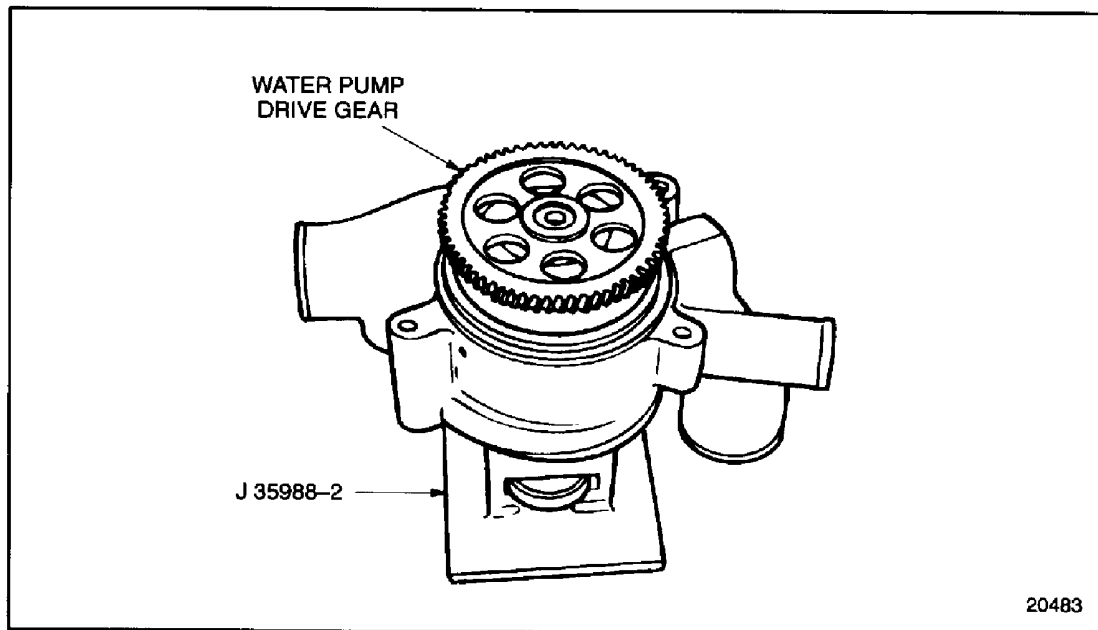

Figure 4-28 Water Pump Drive Gear Installation
21. Turn the housing over and place it face (impeller side) down on the fixture J 35988-2 part of J 35998-B, part of tool set J 35988-B. See Figure 4-28.